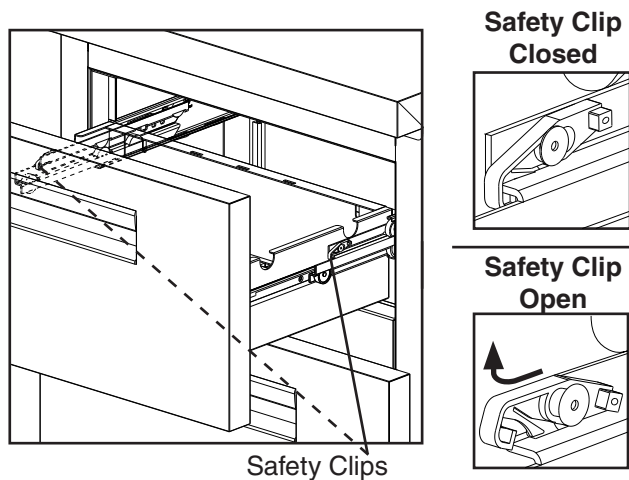

Fig. 39
- **To remove a drawer:** Remove all items from the drawer. Pull the drawer out to its fully extended position. Open the safety clips (one on each side) by sliding them forward, then rotating them up. See Fig. 39. Lift up on the handle slightly, then pull to disengage the drawer. Be sure to support the rear and front of the drawer while removing it.